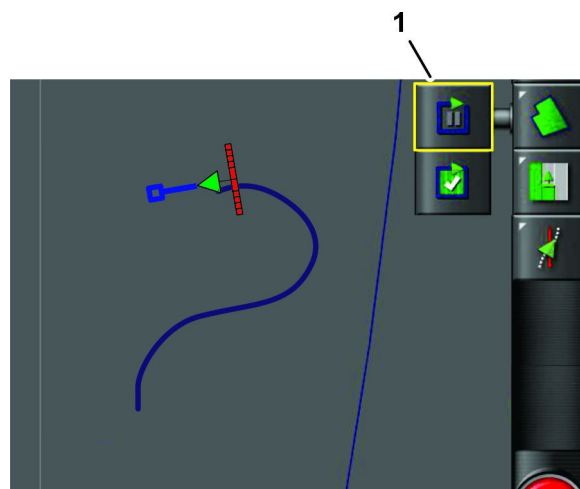

Figure 42
- Press the PAUSE FIELD BOUNDARY RECORDING icon (Figure 42).